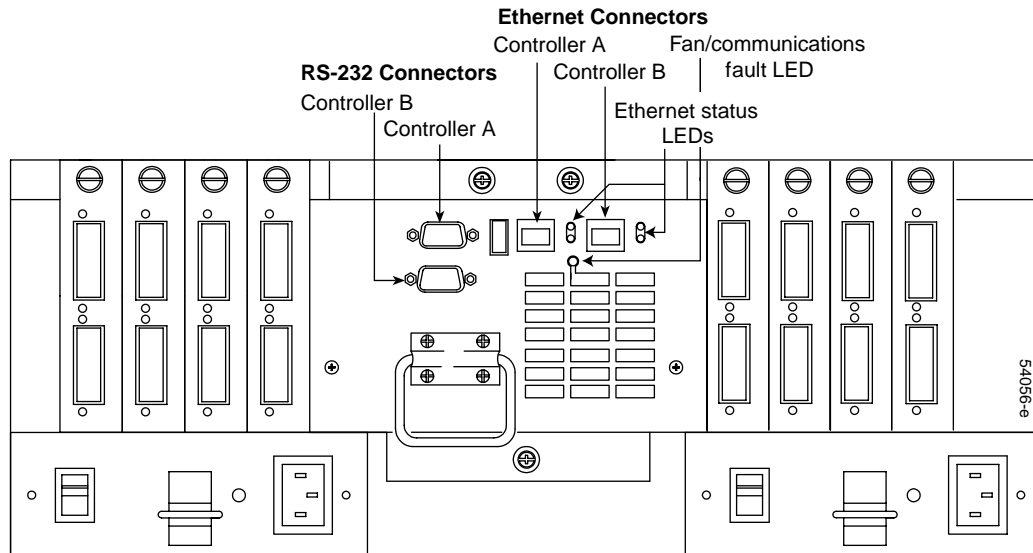

Figure 8-13 Connecting Ethernet and Serial Interface Cables
1. Connect the Ethernet interface cables (see Figure 8-13).
2. Optionally, connect the serial interface cables (see Figure 8-13).